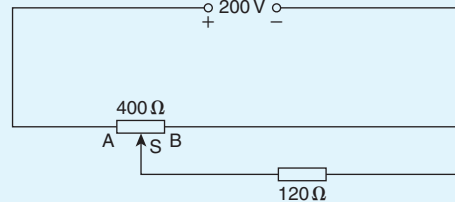

Figure 5.44
- For the circuit shown in Fig. 5.44, AS is $3/5$ of AB. Determine the voltage across the $120\ \Omega$